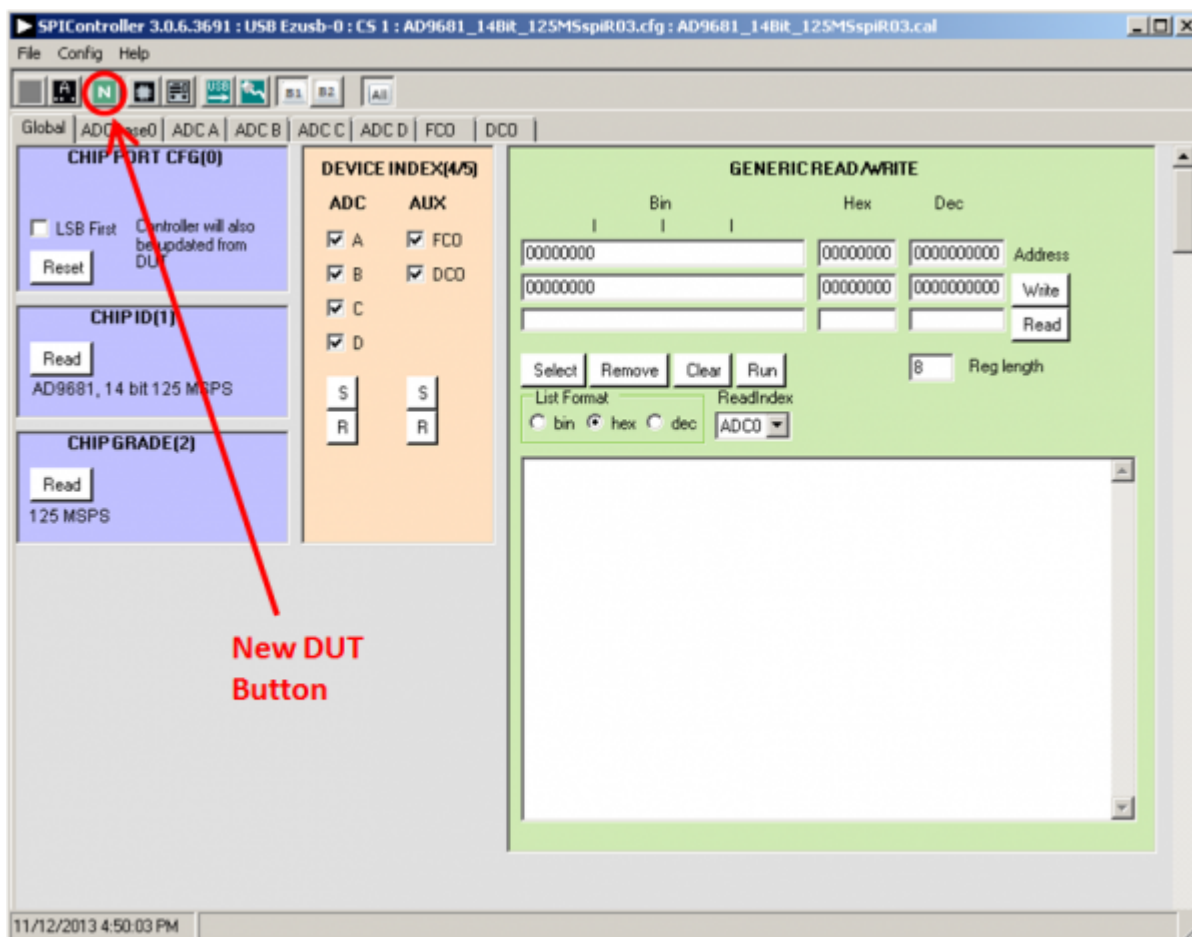

Figure 8.
*SPI Controller, CHIP ID(1) Box*
2. Click the **New DUT** button in the **SPIController** window (see Figure 8)